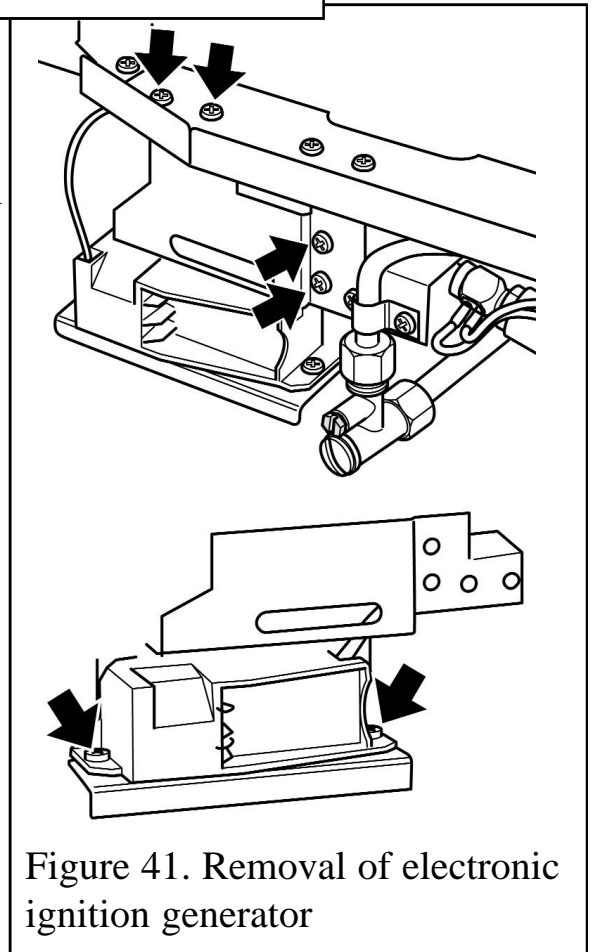

Figure 41. Removal of electronic ignition generator
5. Unscrew the four support bracket screws (See figure 41). The generator and its support bracket can now be moved forward. Be careful not to apply tension to the microswitch leads.
6. Remove the two fixing screws that attach the generator unit to the support bracket. The igniter generator can now be removed (See figure 41).